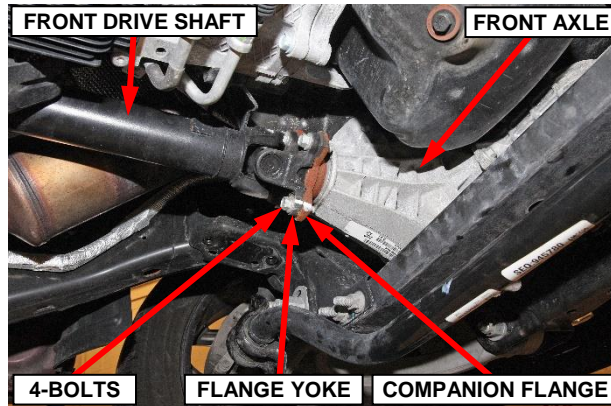

Figure 10 – Front Drive Shaft
- Remove and **DISCARD** the four bolts attaching the front drive shaft flange yoke to the front axle companion flange (Figure 10).
18. Use the mark made earlier to align the front drive shaft flange yoke to the front axle companion flange (Figure 10).
19. Install the four **NEW** bolts attaching the front drive shaft flange yoke to the front axle companion flange (Figure 10). Tighten the bolts to 115 N·m (85 ft. lbs.).